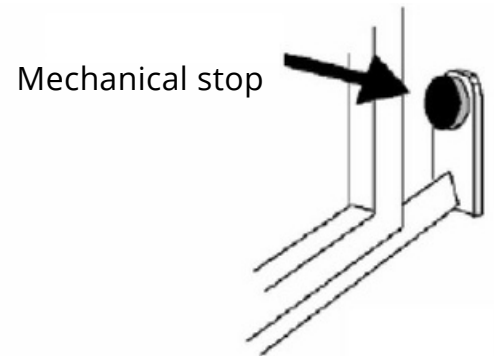
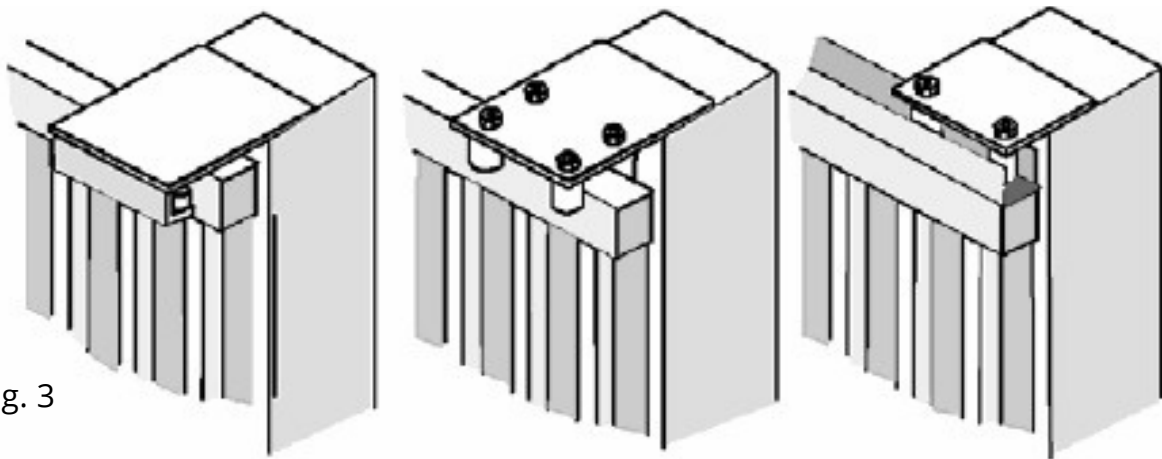

Fig. 2
Fig. 3
- on the ground ( Fig. 1) is not deformed, is perfectly level and that the mechanical stop is present on opening (Fig. 2) in order to prevent the gate from going beyond the upper runners (Fig. 3)
Check the upper runner (see Fig. 3) is firm and the gate slides freely.
Fasten the rack to the gate firmly, leaving a distance of between 2 and 3 mm from the motor pinion (Fig. 2).
(Fig. 3)